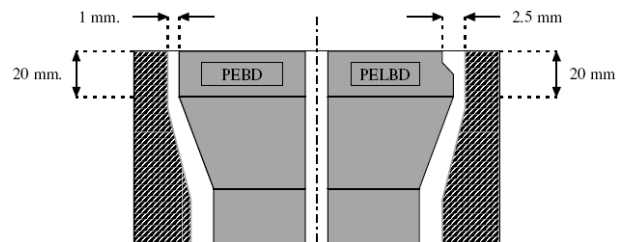

Figure 7. Section of a tubular film extrusion nozzle for PEBD and PELBD.
- Use nozzles with wider tip openings (between 1.2 and 2.5 mm) and a lower discharge longitude (see Figure 7).
Nozzles for processing mixtures rich in linear must have not only a wider opening, but also a lower longitude of the discharge area. Figure 7 shows the suggested design and the most widely recommended values in the technical literature.